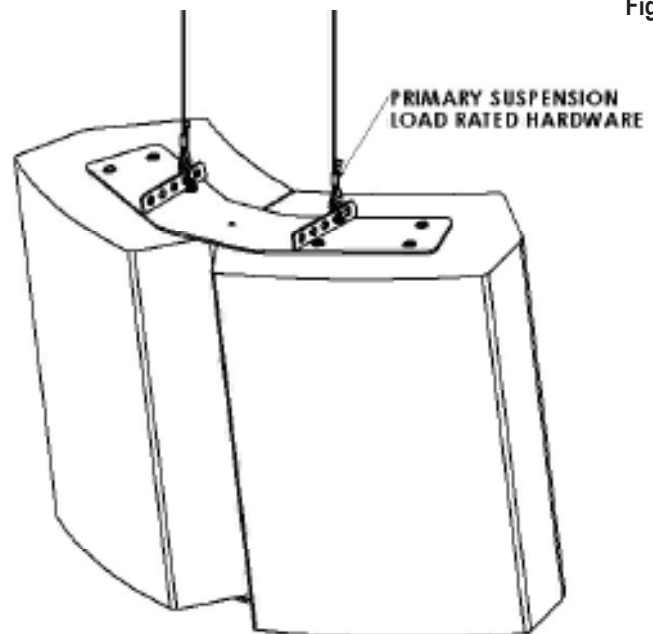

Figure 4
Step 5: Use the suspension bars on top of the speaker cluster as the primary suspension points. Different hole attachments provide different tilt angle for the speaker cluster (Figure 4).